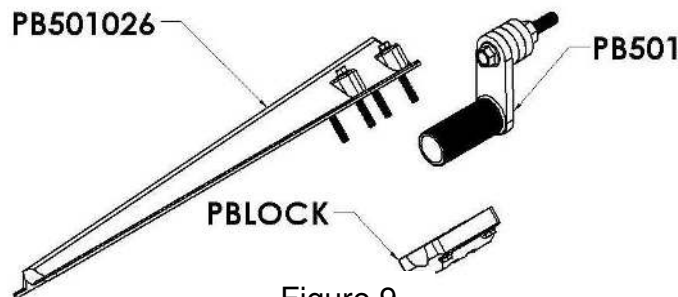

Figure 9
- A. Use four 5/16" x 3" bolts to attach the bracket (part number PB501026) and the backing block (part number PBLOCK) to the steel swivel (part number PB5015). See Figure 9.